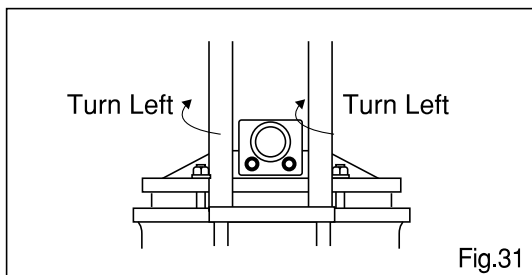

Fig.31
2. Removing yoke : Remove yoke from body ① by turning the yoke ⑦ anti clock wise. (Fig.31)